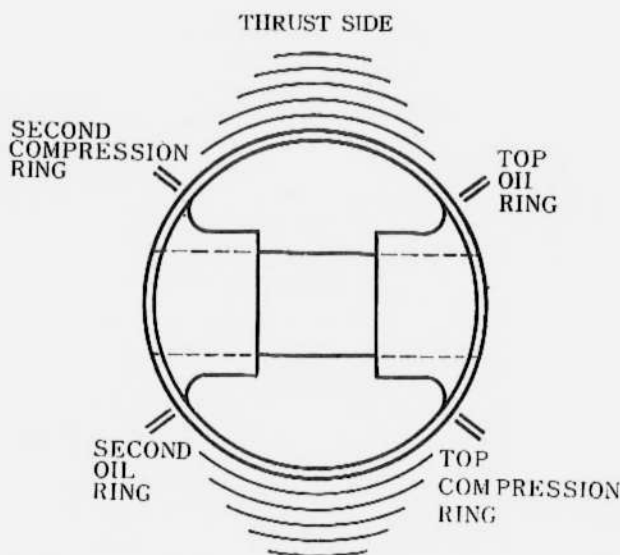

Figure 95 - Position of Ring Gaps when Piston Is Installed
(1) Position piston rings in piston ring grooves so that gaps will be spaced as Figure 95.